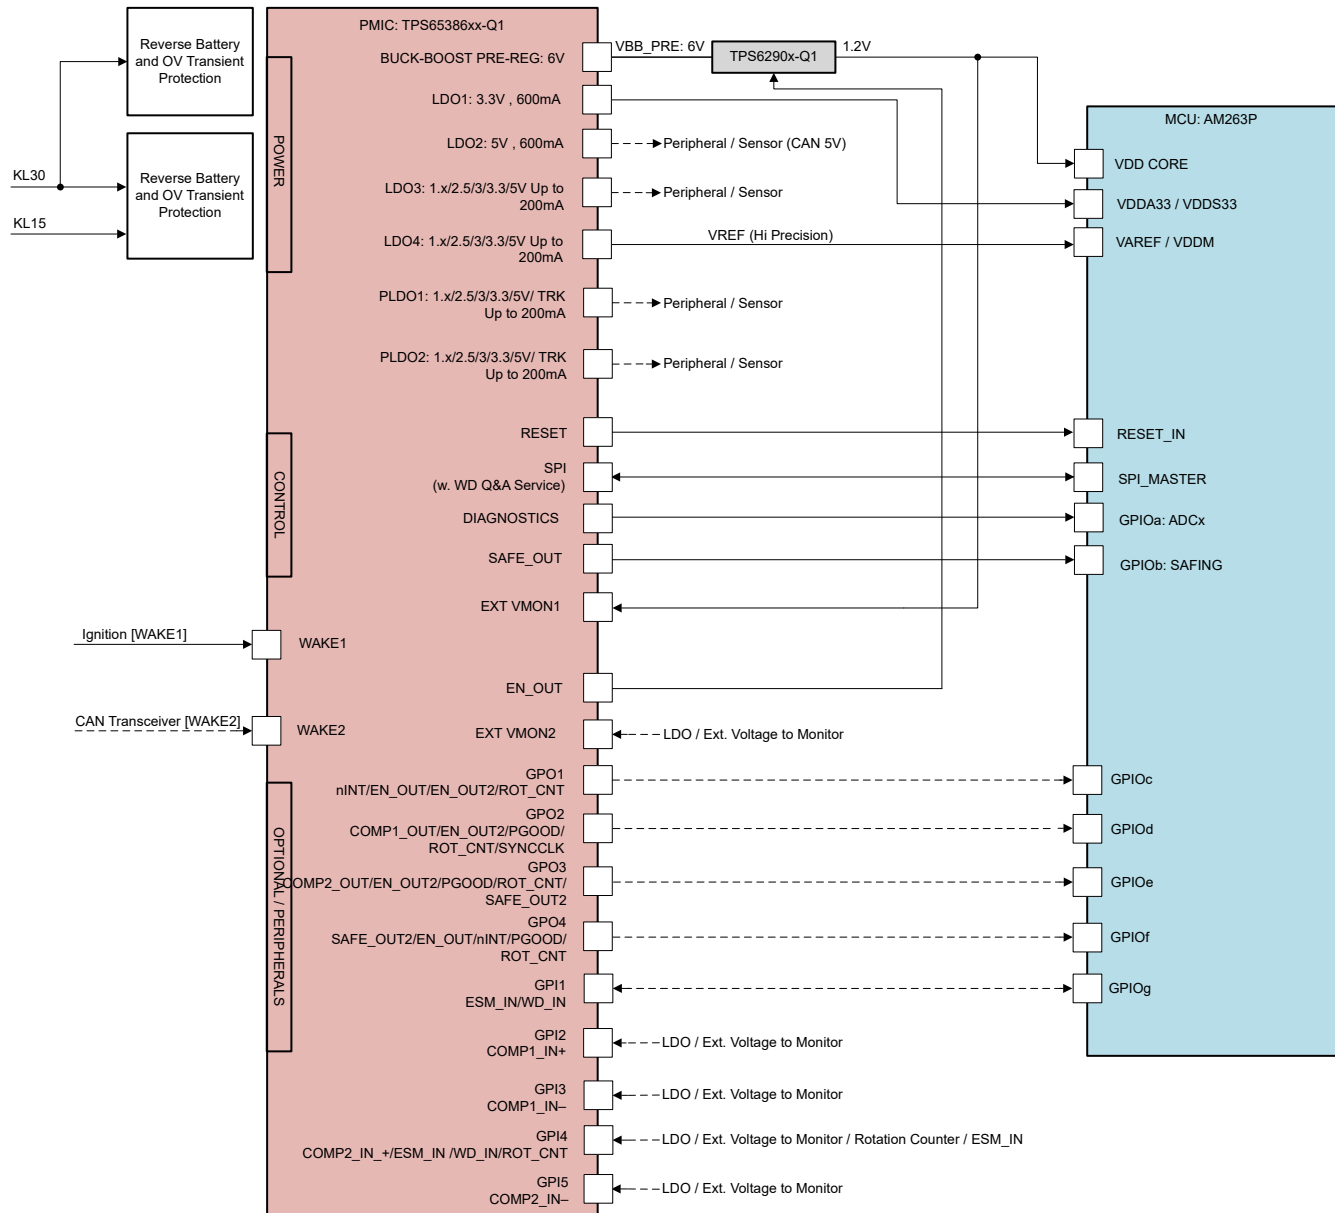

Figure 2-1. TIPA-050072 Power Attach
**Figure 2-1** shows the TPS65386x-Q1 powering the AM263P processor on a system with 12V input supply from a battery. The 12V coming from the pre-regulator connects to the power input of the buck-boost converter (VBATP). The buck-boost converter supplies an external buck converter (VESPA) at 4.3V, 5V, and 6V. This power approach requires an external, high-efficiency, low  $I_Q$  buck converter to supply the VCORE.